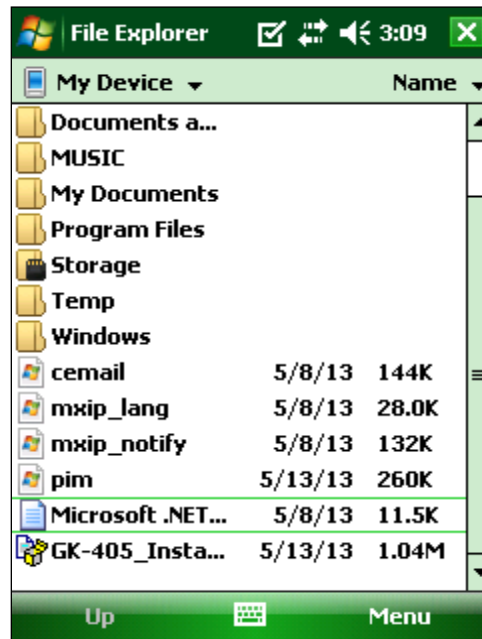

Figure 21 - GK-405 Installer at Root of HDD
- 4) Copy the file, "GK405_Installer.CAB" from the installer folder to the HDD system root folder. From the HDD, navigate to the system root folder using File Explorer (Figure 21) and tap the file, "GK405_Installer" to execute the installer.